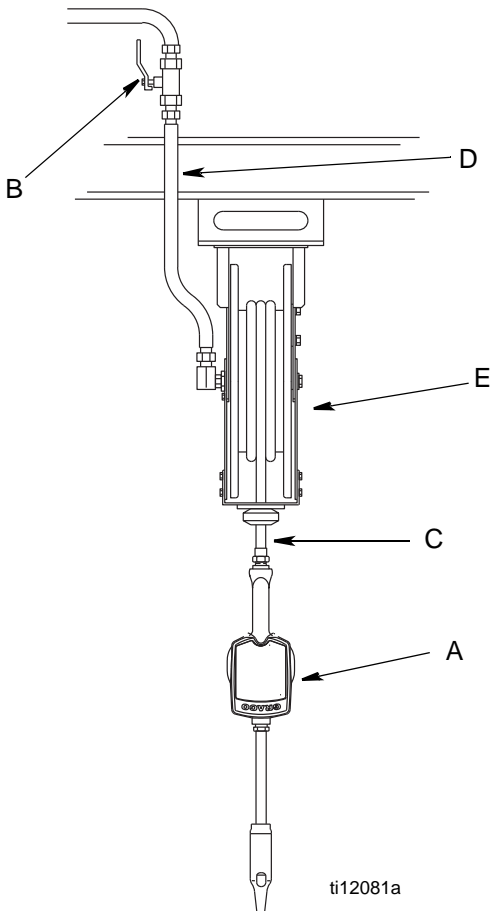
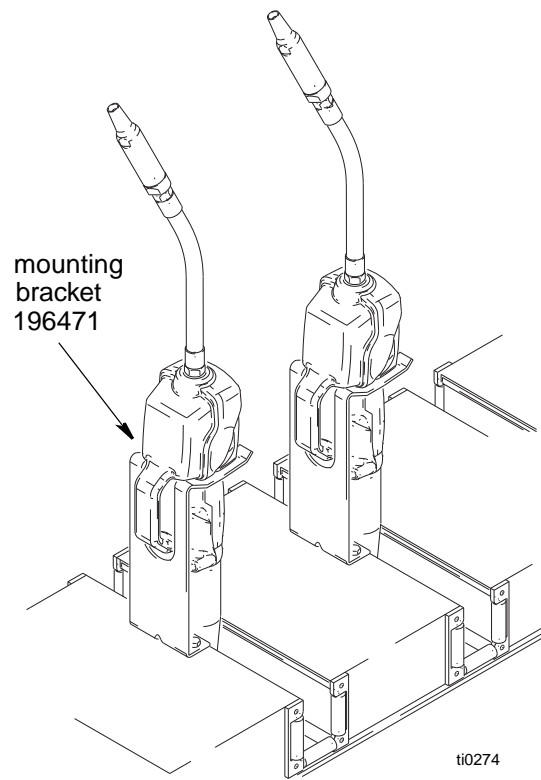

FIG. 1
FIG. 2
FIG. 1 shows a typical hose reel installation. Dispense valves can also be installed on a console as shown in Fig. 2.
The typical installation shown in Fig. 1 is only a guide. It is not a complete system design. Contact your Graco distributor for assistance in designing a system to suit your needs.
Mounting bracket 196471 is available for resting dispense valve on a console. See Fig. 2.
3. Close the shutoff valve (B, FIG. 1, page 4).